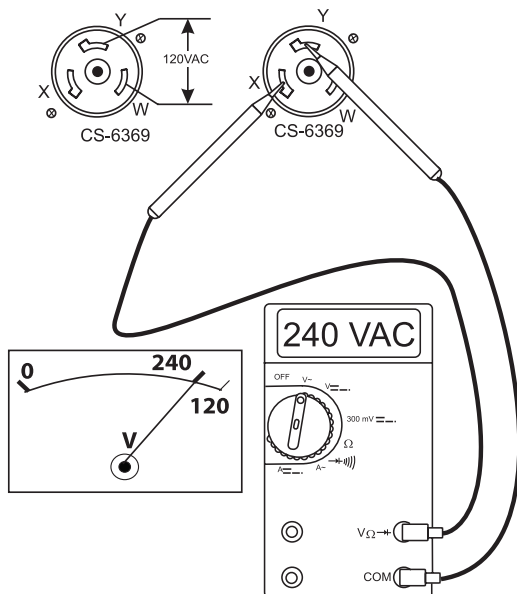

Figure 31. 120/240 CS-6369 Receptacle
- The CS-6369 receptacle is a dual voltage receptacle (120/240 volts). Using an external voltmeter as shown in Figure 31, verify that 120/240 VAC is present at the CS-6369 twist-lock receptacle.